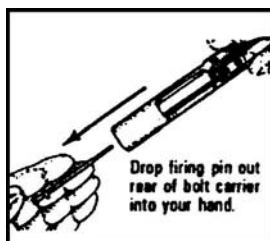

Figure 14. Removing the firing pin.
- l. Remove the firing pin by allowing it to drop out of the rear of the bolt carrier into your hand (Figure 14).